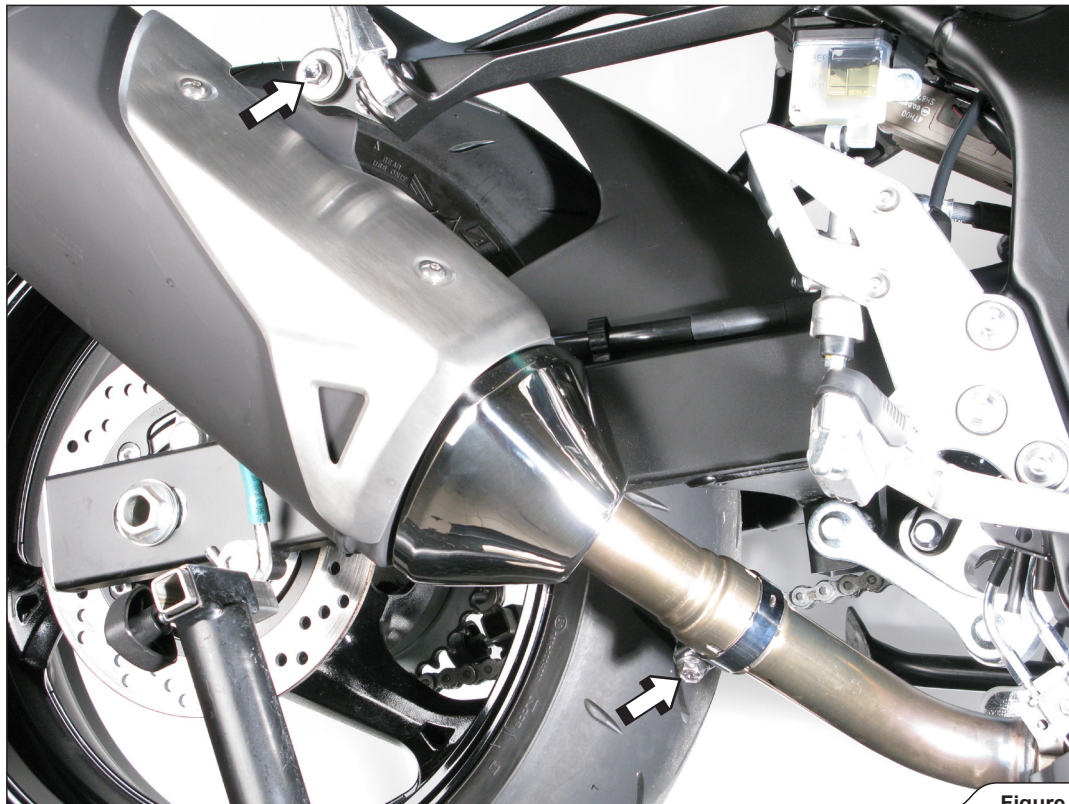

Figure 1
2. Untighten the marked link pipe clamp, unscrew the marked muffler bracket bolt and remove the original muffler of the motorcycle (Figure 1).